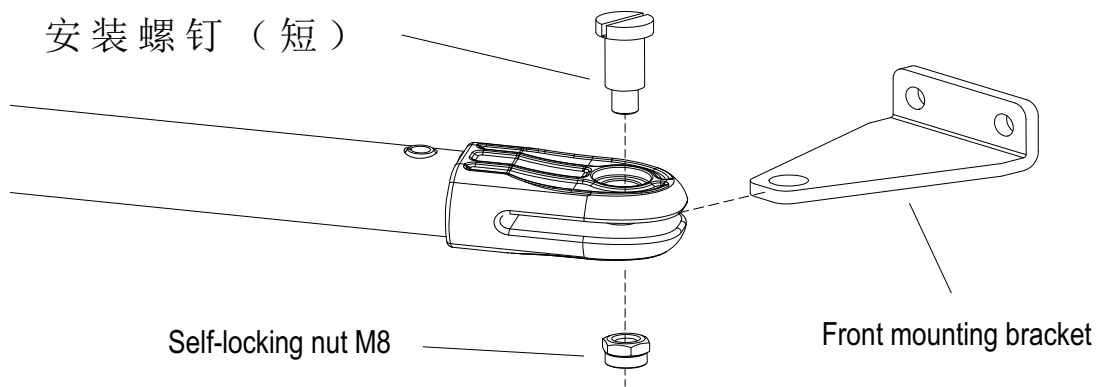

Figure 9
E) As shown in figure 9 below, connect wall bracket with wall according to marked position. Then, connect main machine with wall bracket by screw and nut. (Please use spirit level to make sure the installation levelness.)